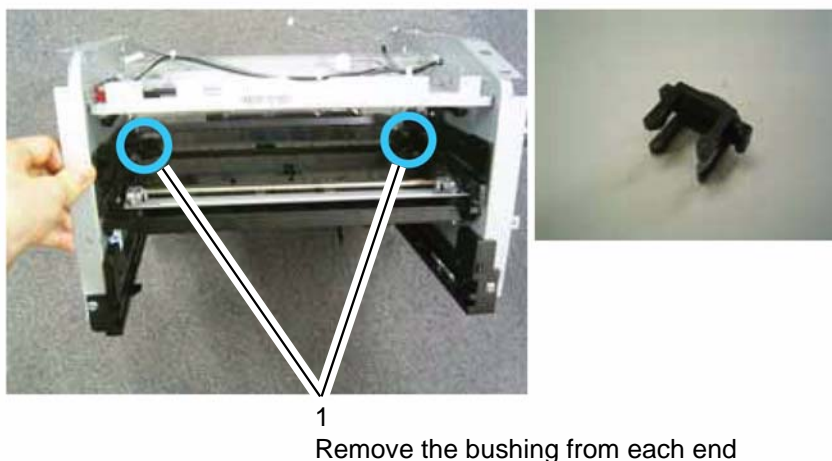

Figure 1
1. Remove the bushing at each end of the transfer roller, Figure 1.